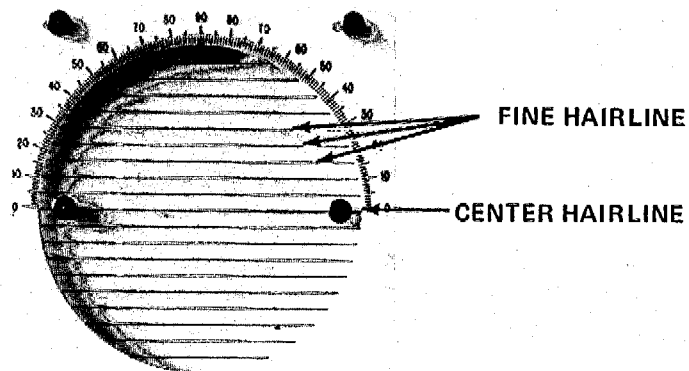

Figure 25 - Reading Angles With Graticule
A.4. Recording angles with the graticule is a simple task. Refer to Figure 25. When a satisfactory trace has been stored, rotate the center section of the graticule until one of the fine hairlines is parallel to the desired angle of the trace. Then, follow the center hairline over to the scale and read the tangent of the angle (in degrees).